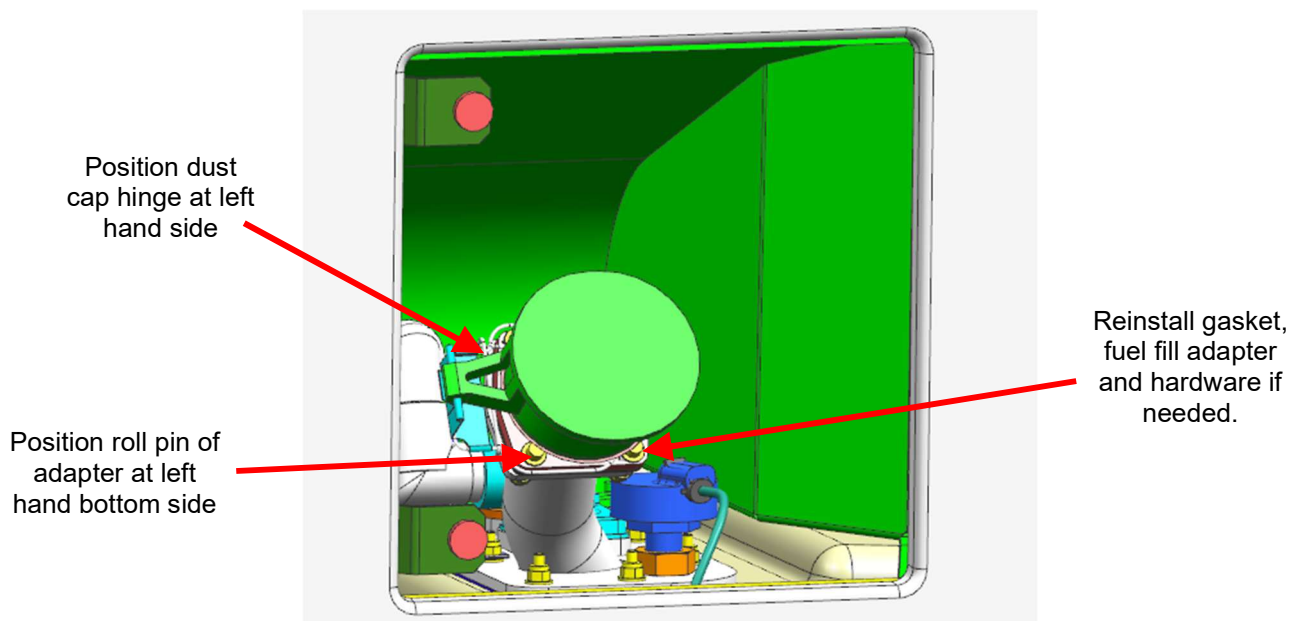

Figure 8: Fuel Snap Adapter Installation (Access Door Removed for Clarity)
19. Reinstall gasket, fuel fill adapter and hardware removed in Step 4. Position roll pin of adapter at left hand bottom side. Position dust cap hinge at left hand side, see Figure 8. Torque hardware to 75-85 in*lbs.